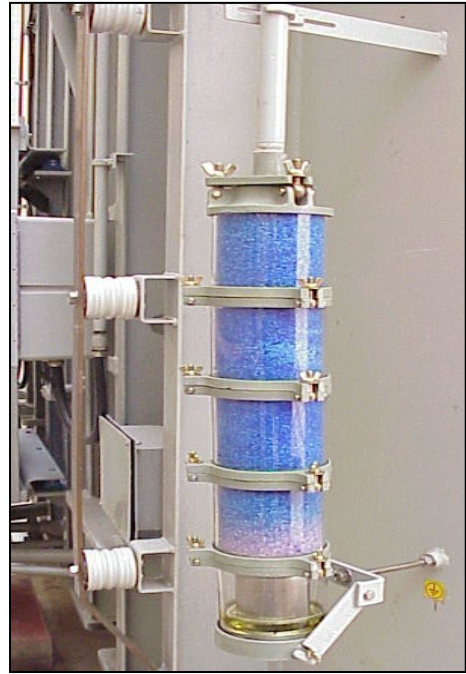

Figure 40 – Conservator Breather.
4.9.2.9.2 Conservator Breather Inspection – Check the dehydrating (desiccant) breather for proper oil level if it is an oil-type unit. Check the color of the desiccant and replace it when approximately one-third remains with the proper color. See figure 40